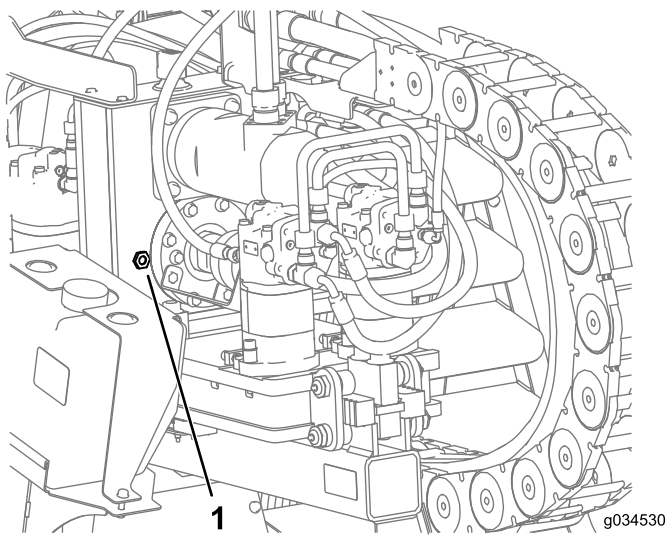

Figure 134
2. Check the oil level on the sight-glass on the gearbox drive (Figure 134).
3. Remove the breather cap and add the oil into the gearbox drive until the oil level on the sight-glass is at least half full (Figure 134).
6. Fill the gearbox with oil until the oil level in the sight glass is more than half full (Figure 134).